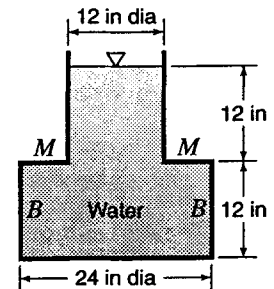

Figure X3.7.16
3.7.16 Figure X3.7.16 shows a cylindrical tank with 0.25-in-thick walls, containing water. What is the force on the bottom? What is the force on the annular surface  $MM$ ? What is the weight of the water? Find the longitudinal (vertical) tensile stress in the sidewalls  $BB$  if (a) the tank is suspended from the top; (b) it is supported from the bottom. Neglect the weight of the tank.